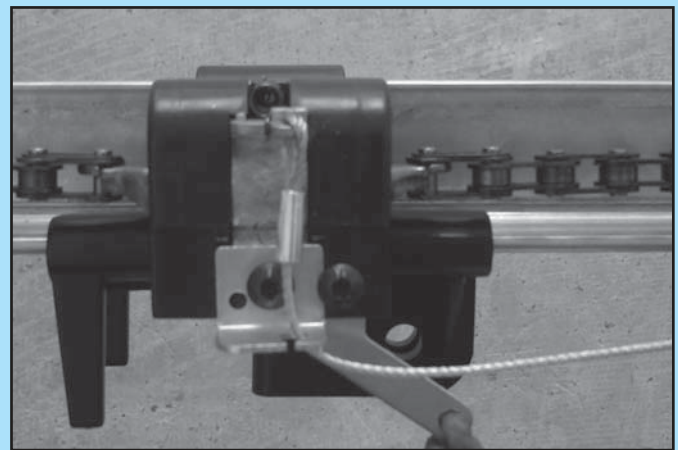

FIG. 6-4 Emergency release cable to carriage.
1. Attach the emergency release cable loop end to the opener carriage as shown (FIG 6-4).